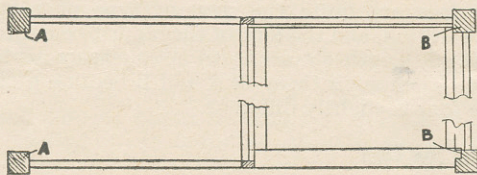
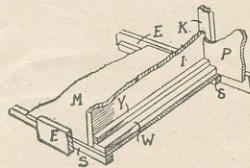

Fig. 1—A plan showing the four legs and long cross rails
Fig. 2—Cut-away view of centre partition, floor and drawer guides
The ones at A as shown on the plan at Fig. 1, are those which come at the open end of the wagon. Those marked B are at the end where the drawers are and must be marked accordingly.
The middle floor does not extend right through nor do the ledge pieces themselves. They only extend a portion of the way as shown at Fig. 2.
The front edge of it is covered by an upright rail (K), whilst it is supported on one side by fillet pieces of triangular section. In Fig. 2 can also be seen how the runners and guides for the drawer are made. These are the parts Y and W. The latter is glued to the floor immediately opposite the upright, and Y comes above it.
Let us start our new hobby by making the simple tea caddy spoon as shown in Fig. 1. First, from a piece of 19 gauge copper, cut out the shape with snips as in Fig. 2 and file the edges up true to shape. Now, copper and brass are very hard when bought, so the next job is to anneal or soften the metal. This can be done on the kitchen gas ring or with the blowlamp by making the metal red hot and quenching it into water to cool it. It will now be found to bend any way at will.